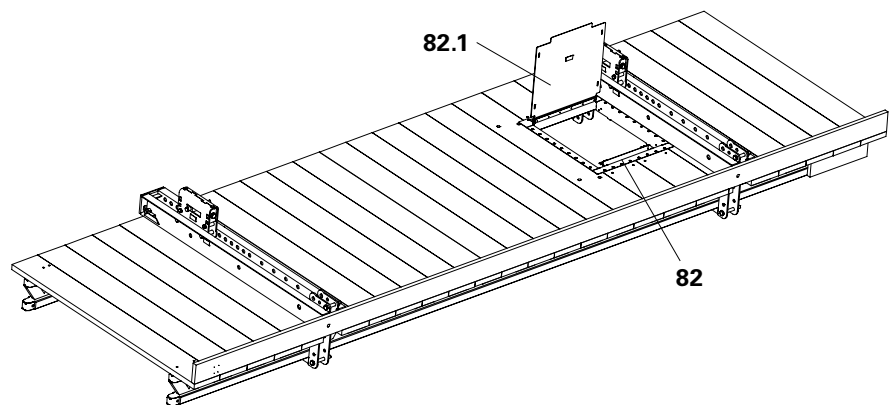

Fig. B1.13a
1. Place Hatch RCS 55 x 60-2, foldable (82) in the prepared recess. The opened hatch cover (82.1) points towards the wall side. (Fig. B1.13a)